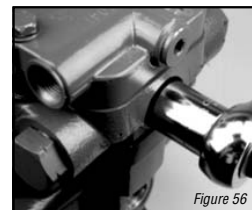

Figure 56
**29** Lubricate and reassemble the bypass valve assembly. Install the bypass valve into the backplate. Torque valve to 30,5±2 Nm [22.5±1.5 lb-ft] (see Figure 56).